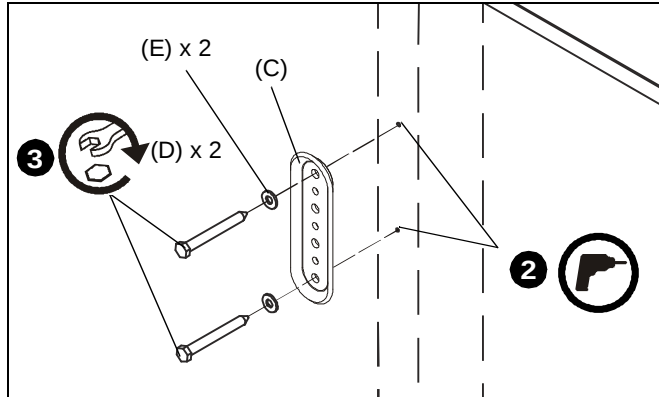

Figure 1
1. Determine location for mount keeping in mind display size, extension, height adjustment (if applicable), and pitch/roll requirements. Wall bracket (C) **MUST** be installed into wood stud.
2. Using wall bracket (C) as a template, drill two 1/8" diameter pilot holes through top and bottom holes of bracket and into wall structure. (See Figure 1)
3. Using 7/16" wrench, install two 1/4" x 2-1/2" hex head lag screws (D) through two 1/4" washers (E), wall bracket (C), and drywall into wood stud. Ensure bracket (C) is vertical, then tighten screws (D). (See Figure 1)